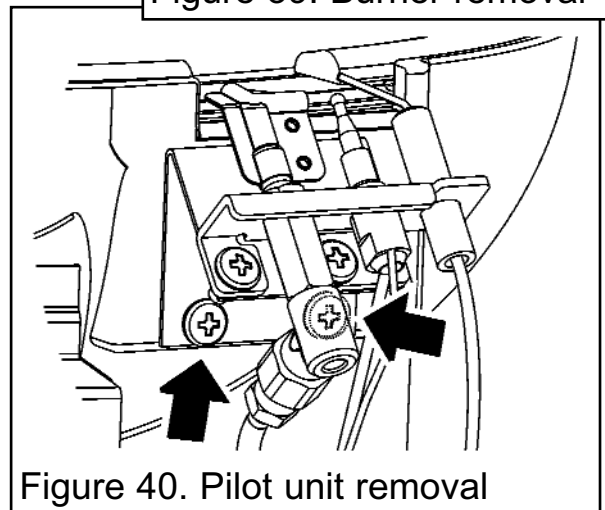

Figure 40. Pilot unit removal
3. Remove the two screws that secure the pilot bracket to the burner (See figure 40).